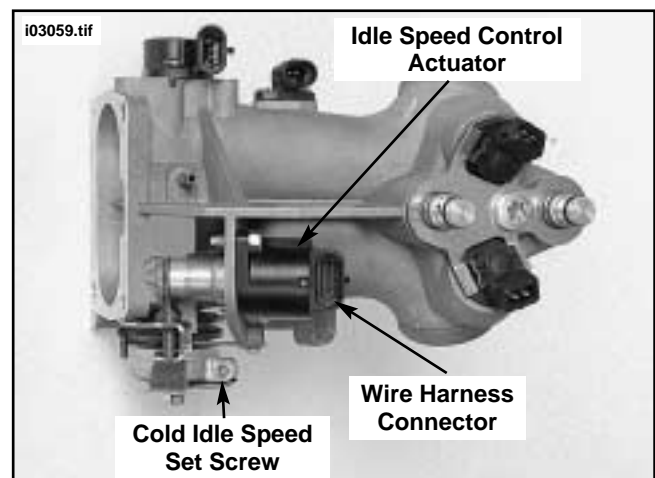

Figure 3. Induction Module (Top View)
4. Using a T10 TORX drive head, turn the cold idle speed set screw until engine speed is 1500-1600 RPM. See Figure 3. Be sure not to move the idle speed lever while turning the screw.